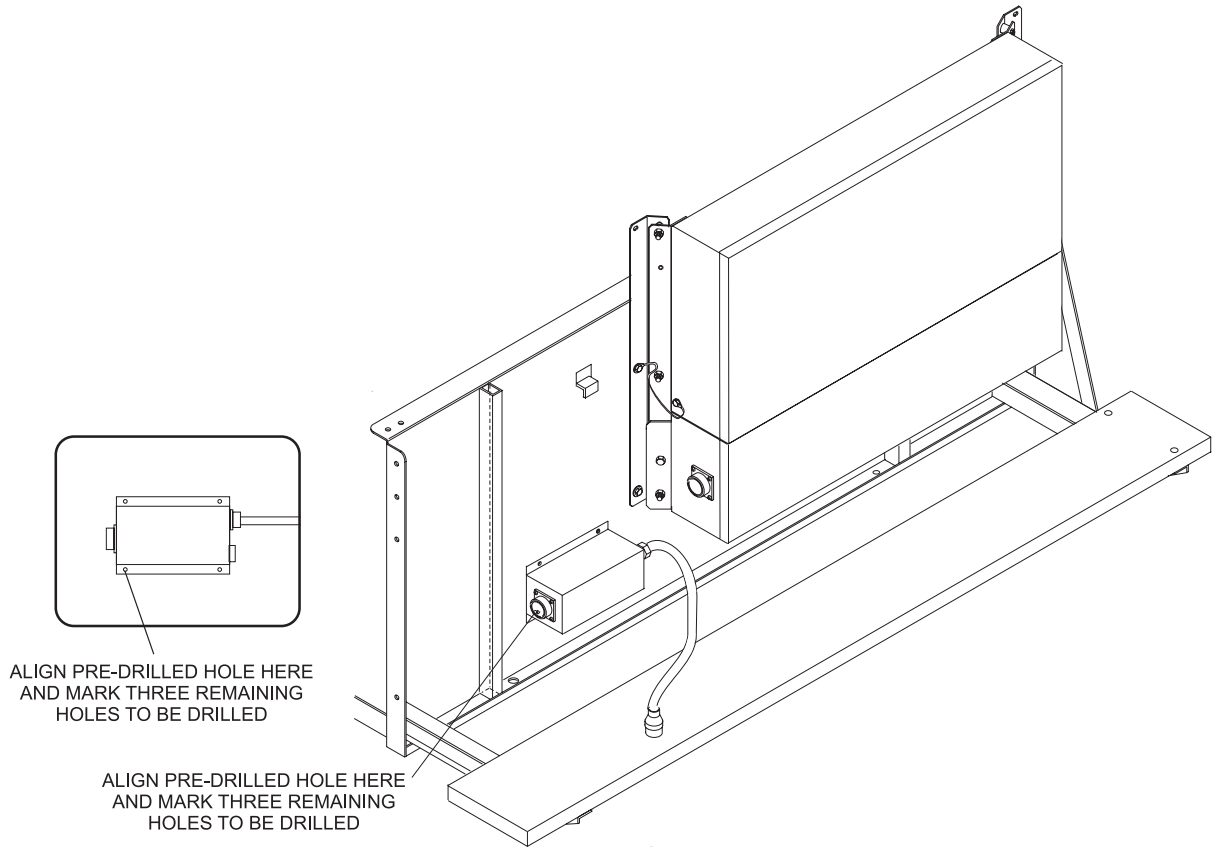

Figure 8
3. Install the Emergency Stop Interface Box assembly to the pinsetter. Refer to Figure 8.